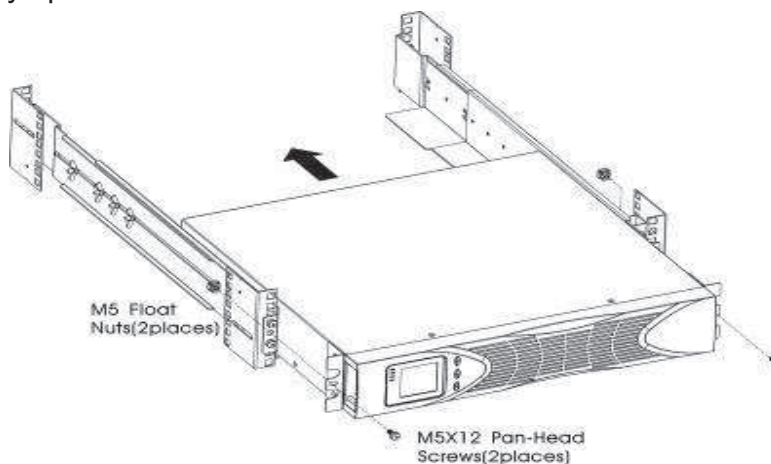

Figure 4 Securing the Front of the Cabinet
- l) Secure the front of the UPS to the rack using one M5×12 pan-head screws and one M5 cage nuts on each side(see Figure 4). Install the bottom screw on each side through the bottom hole of mounting bracket and the bottom hole of the rail.